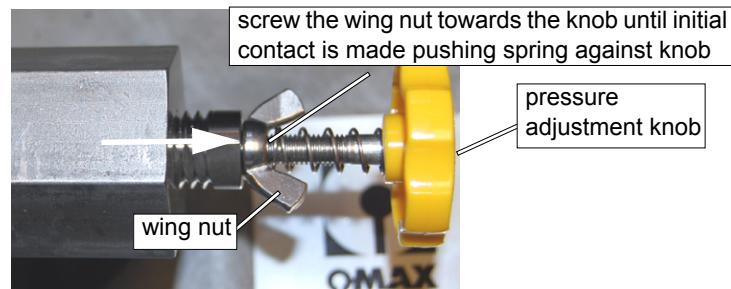

Figure 3-15
- c. To ensure the valve stem is correctly positioned once the pump starts, first, screw the wing nut towards the knob until the spring makes initial contact with both the wing nut and knob (Figure 3-15).